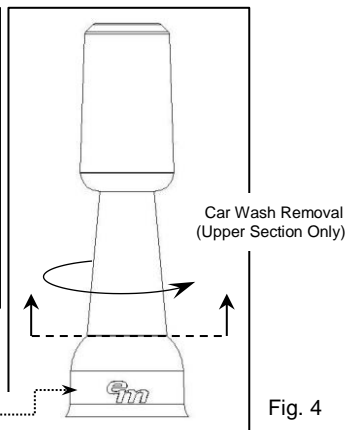

Fig. 4
- C. **CAR WASH REMOVAL (Fig. 4):** Using one hand, hold the antenna at the base adapter with a firm grip. Using the opposite hand, detach the Poly Spring from the base by unthreading with a Counter Clockwise (CCW) rotation. **Note: Leave the NMO Base Adapter attached to the NMO mount to protect the mount from water and debris.**